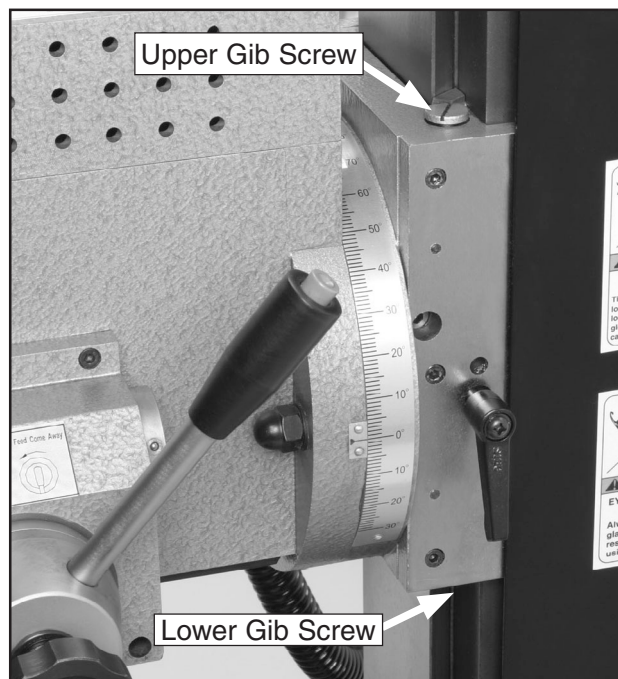

Figure 34. Headstock gib adjustment.
2. Loosen the headstock lock lever (see **Figure 34**).
3. Loosen or tighten the upper and lower gib screws (**Figure 34**) in an alternating manner to adjust the headstock gib.